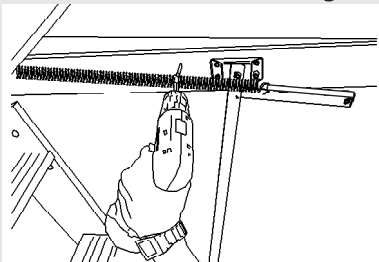

fig 11
7. With the stairs open screw through the holes in the side frame into the ceiling frame (figure 11). Do not fit tight yet.